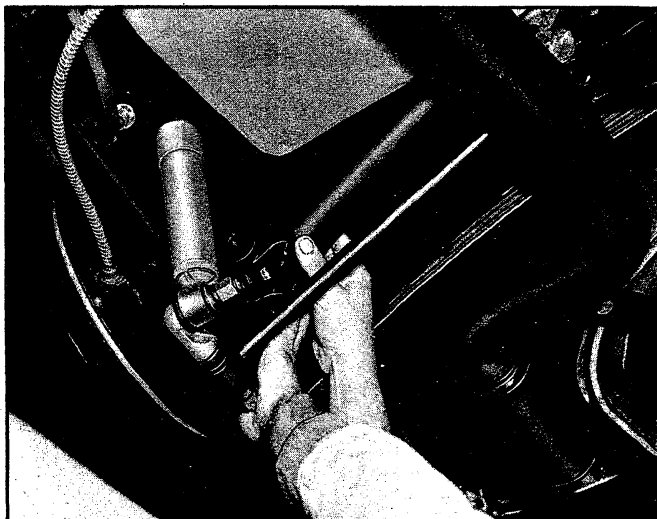

Fig. 89—Removing Driveshaft
3. Pry driveshaft out of outboard drive flange pilot and remove by withdrawing outboard end first (fig. 89).